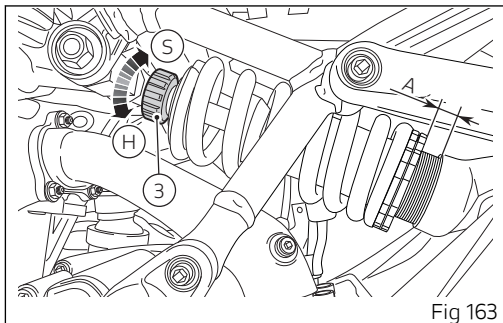

Fig 163
- rebound: loosen adjuster (3, Fig 163) by 14 clicks (from fully closed);
- spring preload: Position the ring nuts at a distance (A, Fig 163) from the endcap of 0.75 in (19 mm).